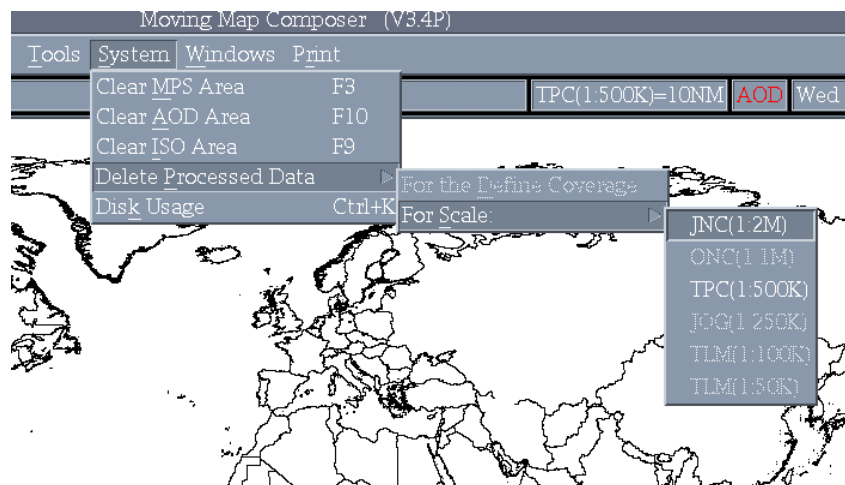

Fig. 46 – Delete Processed Data option
- *Delete Processed Data*: Clears the defined area of CAC data coverage for the specified chart scale on the hard disk (Fig. 46).